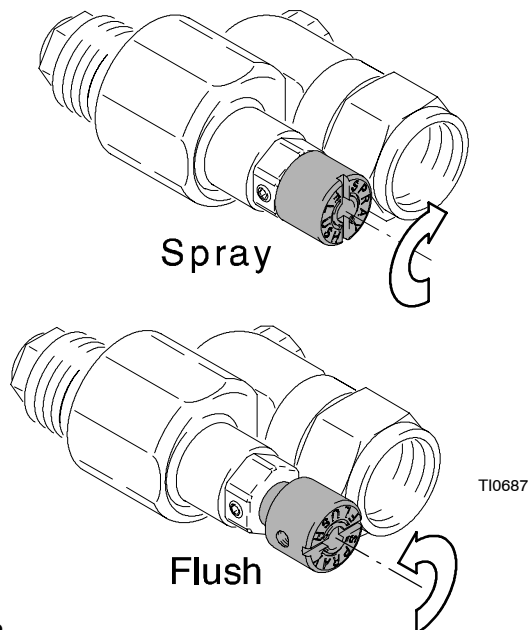

Fig. 2
4. Rotate the spray valve knob counter-clockwise to the out/flush position. Fig. 2.
The CleanShot Shut-Off Valve provides two settings: SPRAY and FLUSH. The valve is factory set to the SPRAY position for spraying at pressures above 700 psi (4.8 MPa, 48 bar). Rotate the valve knob counter-clockwise to the FLUSH position for flushing, cleaning, priming and relieving pressure. The FLUSH position is also used for low pressure spraying applications below 1000 psi (6.9 MPa, 69 bar). Fig. 2.